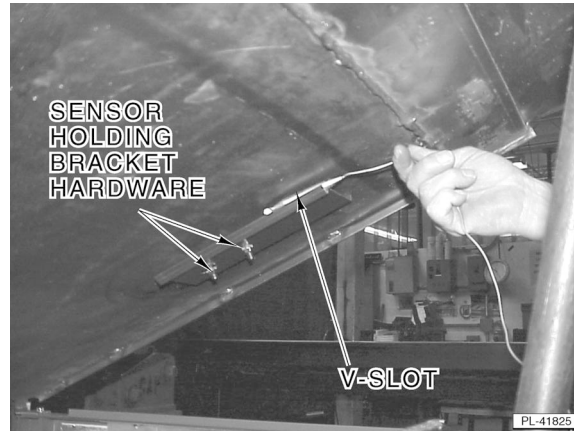

Fig. 17
7. Slide the thermostat bulb through the V-slot bracket (Fig. 17). Neatly coil the excess capillary line without kinking and lay resting in front of the heat shield. Do not pinch the line when reinstalling the control cover.